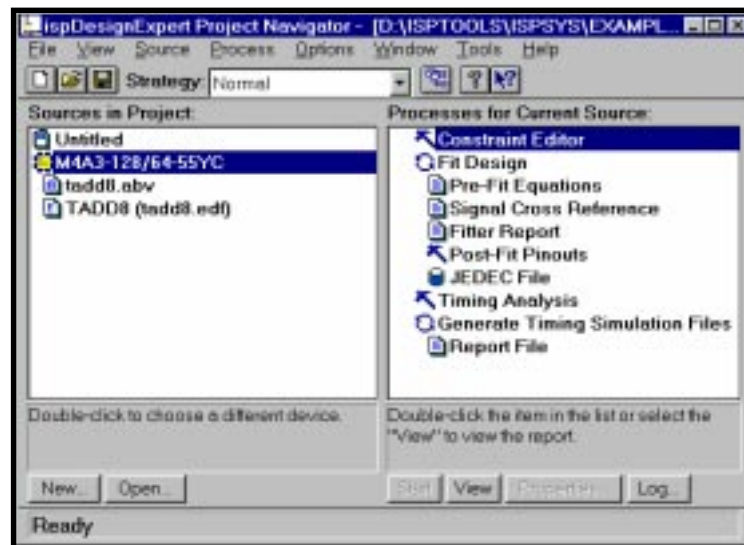

Figure 3-32. Project Navigator after Importing EDIF Netlist
4. Click **OK**. The software adds the selected EDIF file (.ed\*) to the project sources (Figure 3-32).